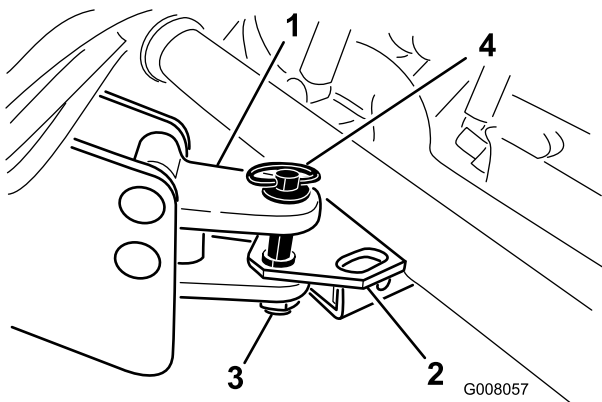

Figure 18
2. Adjust the processor hitch tongue to the same level as the vehicle hitch (Figure 18). The core processor frame should be level with the ground when it is on the rear roller.
3. Connect processor hitch to vehicle hitch with a hitch pin and lynch pin (Figure 18).